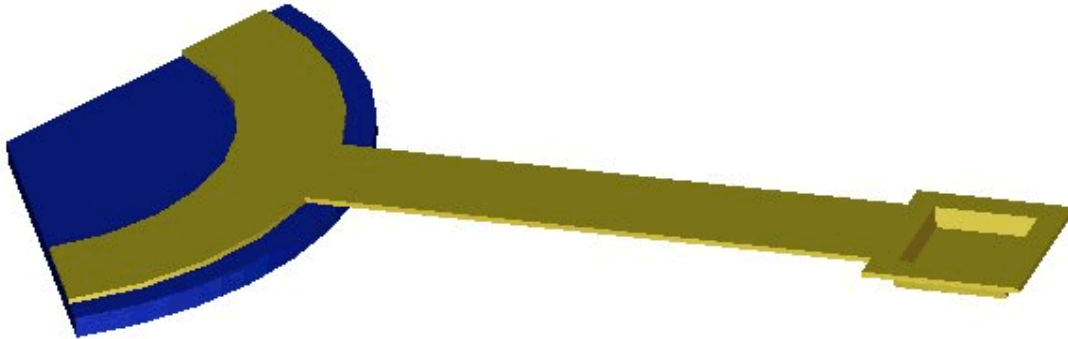

Figure 100: 3D Model
- ☑ Click **3D Tools> View 3D Model** to generate the 3D model. After generation the 3D model is displayed as in (Figure 100).